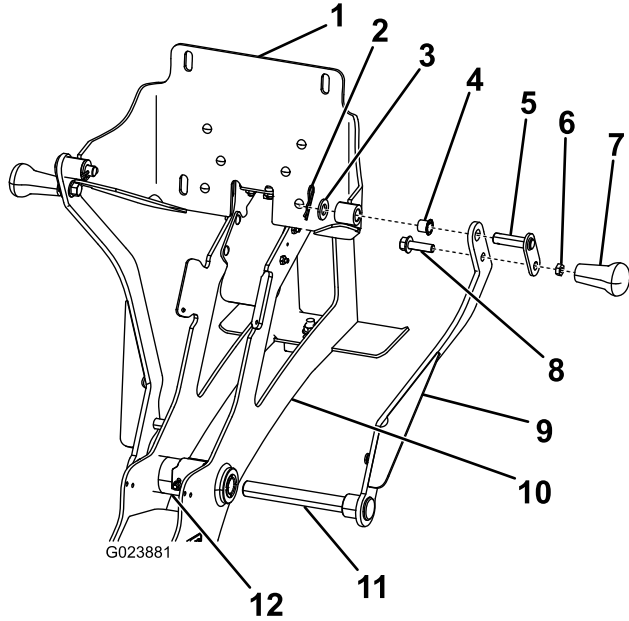

Figure 6
- Insert the axle of the right cradle arm through the hinge shaft (Figure 6).
- Loosely attach the left arm to the exposed axle on the other side of the frame. (Figure 6).
- On the back-plate assembly, install the 2 small bushings into the back-plate pivot points (Figure 6).
- Move the back-plate assembly into position between the upper holes in each arm. (Figure 6).
- Install a pivot pin through the upper hole in the arm and the back-plate assembly. (Figure 6).
- Secure the handle to the back-plate assembly using a flat washer and hairpin as shown in Figure 6.
- Secure the handles to the lower holes on the arms (Figure 6) with a bolt (3/8 x 1-1/4 inches) and a jam nut (3/8 inch).
- Secure the upper pivot pin of the left cradle arm to the back plate with a washer (1/2 inch) and hairpin (Figure 6).